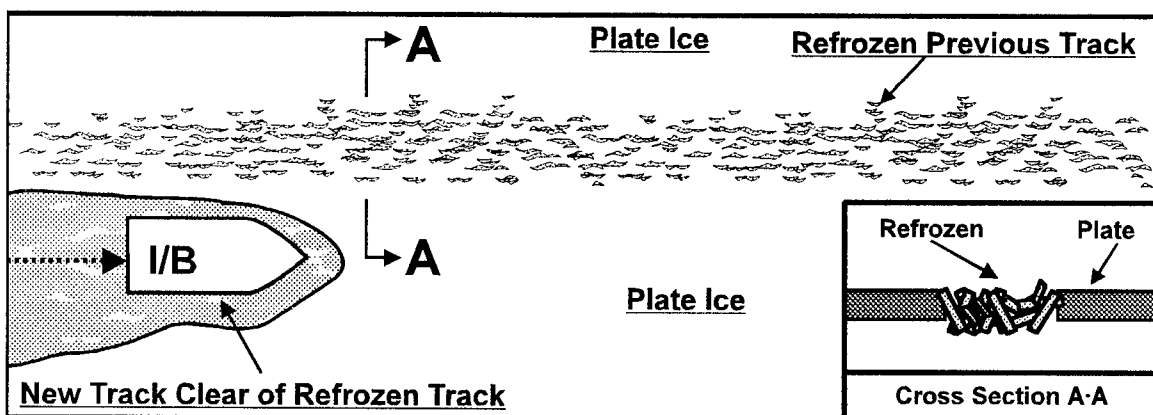

Figure 6-7 Old and New Tracks
7. Utilizing Old Track. In some channels with a heavy current large pieces of plate ice can be piled up with the edges up on the downriver side (See **Figure 6-7**). Once a track has been broken it is advisable to make all subsequent transits upriver in a broken track and break new ice headed downstream. Using this method will significantly reduce the amount of backing and ramming required.